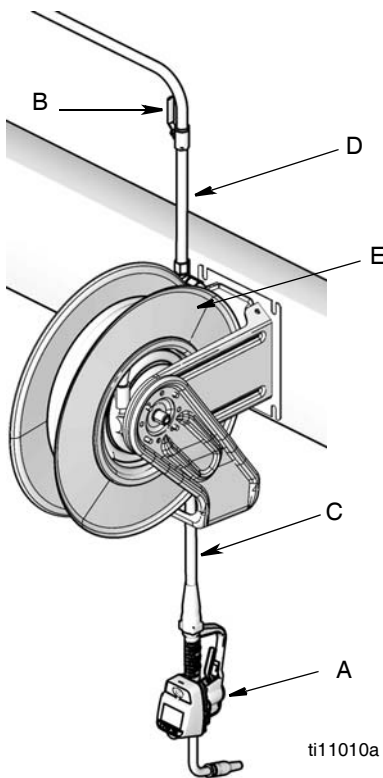

FIG. 1
## Typical Installations (FIG. 1)
The typical installation shown in FIG. 1 is only a guide. It is not a complete system design. Contact your Graco distributor for assistance in designing a system to suit your needs.
2. Close the shut-off valve (B, FIG. 1).
1. Close the fluid shut-off valve (B, FIG. 1, page 8) at each dispense position.